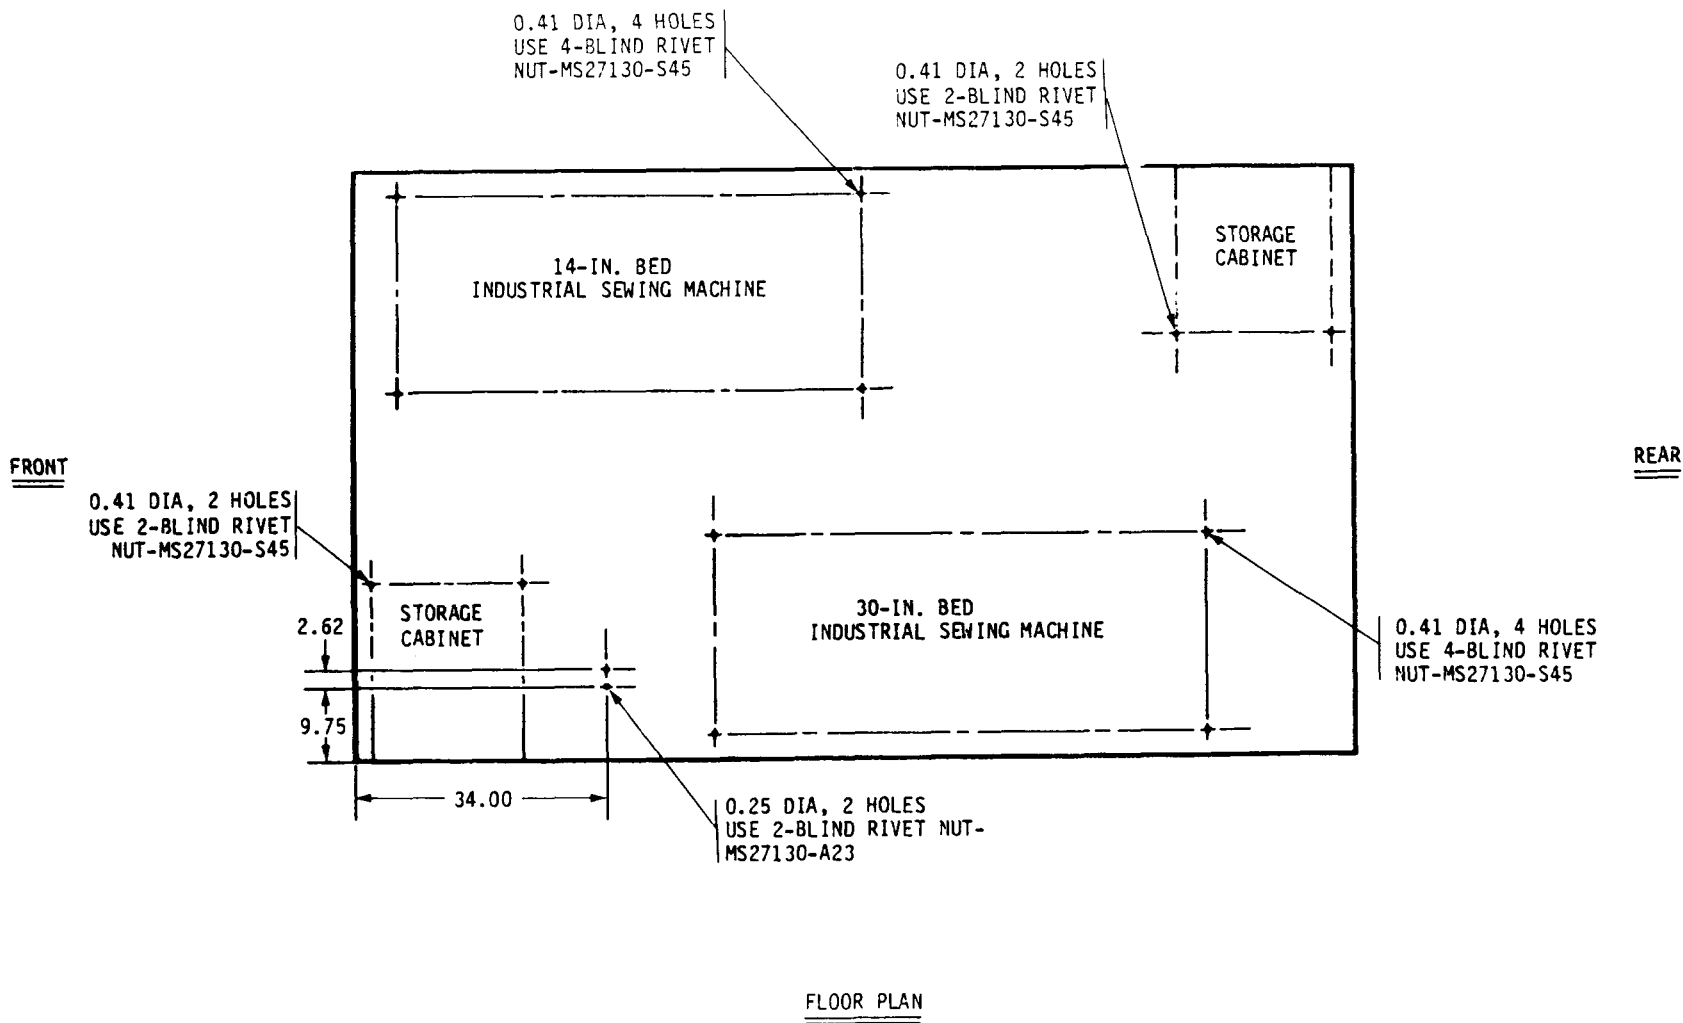

Figure 3. Hole Dimensions for Mounting Holes and Strap Loops, Unit 1, 280.
a. Follow steps (1) and (2) below for installing blind rivet nuts in the 280 shelter, unit 1.
(1) Mark and drill eight 0.25-in. diameter holes in floor and walls of shelter in accordance with figures 3 and 4. Install eight #10 blind rivet nuts (MS27130-A23).
(2) Mark and drill sixteen 0.41-in. diameter holes in floor and walls in accordance with figures 3, 4, and 5. Install sixteen 5/16-in. blind rivet nuts (MS27130-S45).